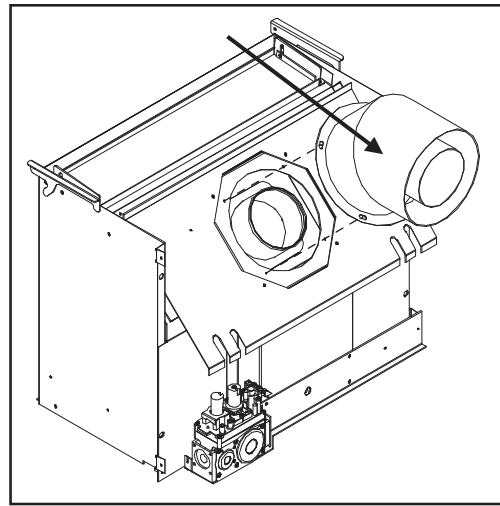

Figure 39: Step 4 of Converting Top Vented into Rear Vented.
4. Turn the elbow to the rear vent position and re-fasten with the screws removed in step 2 (see Figure 39).